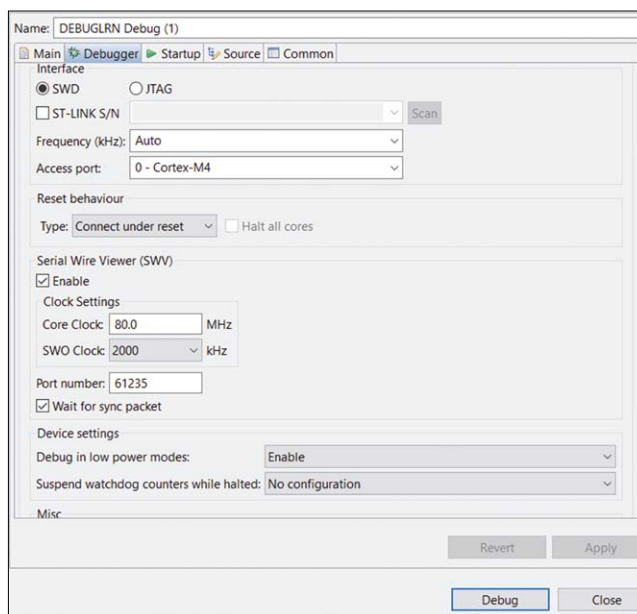

Figure 14.8: Configuring the Debug Configurations.
- Set **Interface** to **SWD**, Enable **Serial Wire Viewer (SWV)**, set **Core Clock** to the clock frequency selected for the MCU (e.g. 80 MHz), and click **Close** (see Figure 14.8).